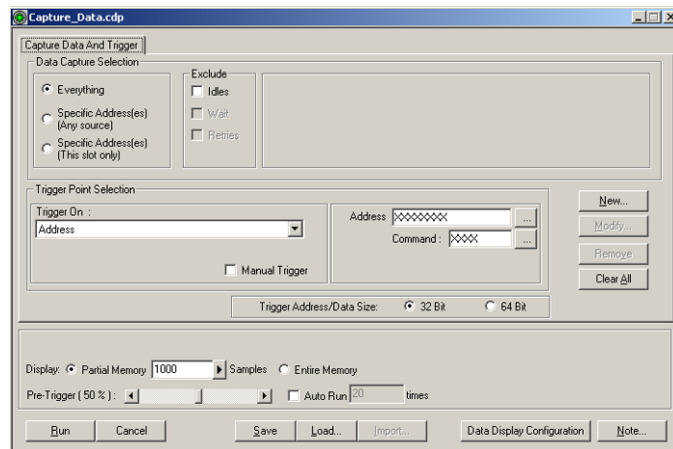

Figure 13 Capture Data and Trigger Dialog Box
1. Click the Green button on the Main Menu bar to open the Capture Data and Trigger dialog box shown in Figure 13.